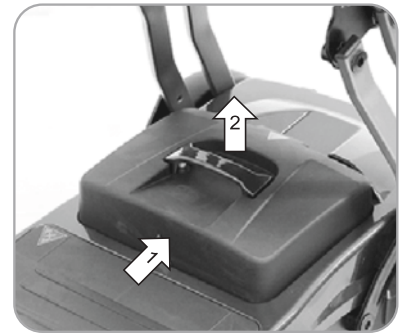

Figure 27
- Each battery box contains one lithium battery or (2) lead-acid batteries (optional).
- The battery box is designed for a better stability. Please follow the instruction to disassemble the battery box (Figure 27) . Push the battery backwards (1.) and pull it upwards (2.).